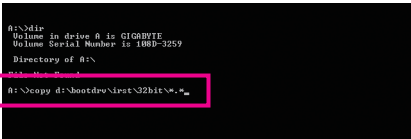

Figure 1
- For the Intel H57, type (Figure 1):